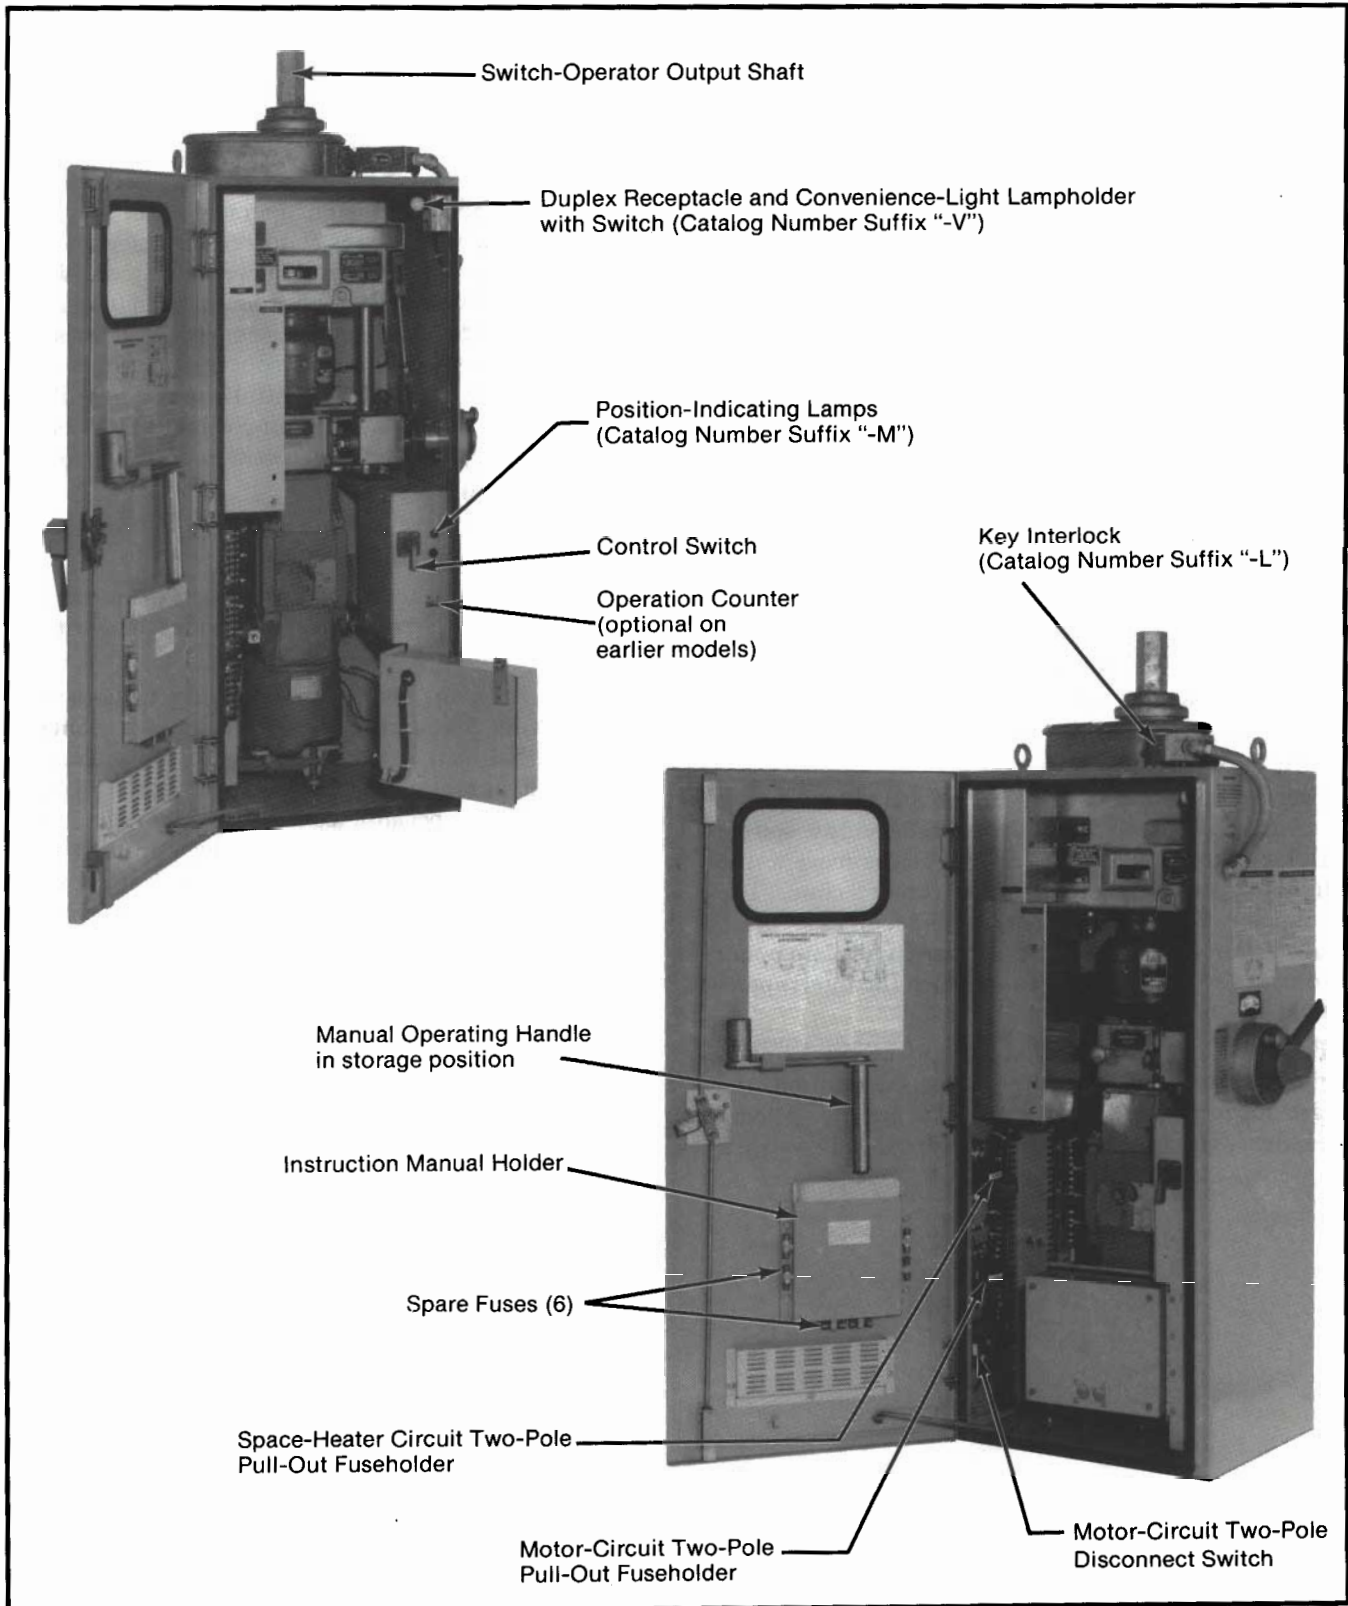
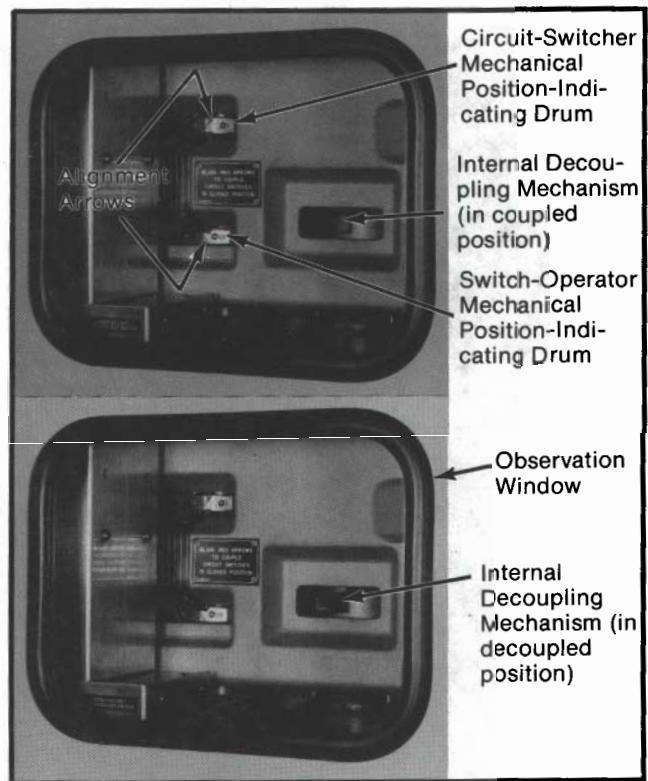

Figure 1. Internal views of switch operator.
Figure 3. Decoupling mechanism and mechanical position indicators.
- The mechanical position-indicating drums for both Circuit-Switcher and switch operator show a matched pair of green alignment arrows for a Circuit-Switcher open position, or a matched pair of red alignment arrows for a Circuit-Switcher closed position. See Figure 3. Also note the position-indicating lamps, Figure 1, if furnished.
The control switch for electrically opening or closing the Circuit-Switcher is located inside the switch-operator enclosure. See Figure 1.
Visual inspection, through the observation window, will verify whether the internal decoupling mechanism is in the coupled or decoupled position. See Figure 3. The selector handle may be padlocked in either position.
Determine the position of the switch-operator output shaft, and the switch-operator motor and gear train, by observing the mechanical position-indicating drums which appear in the two openings inside the enclosure at the upper left. See Figure 3. The upper drum is